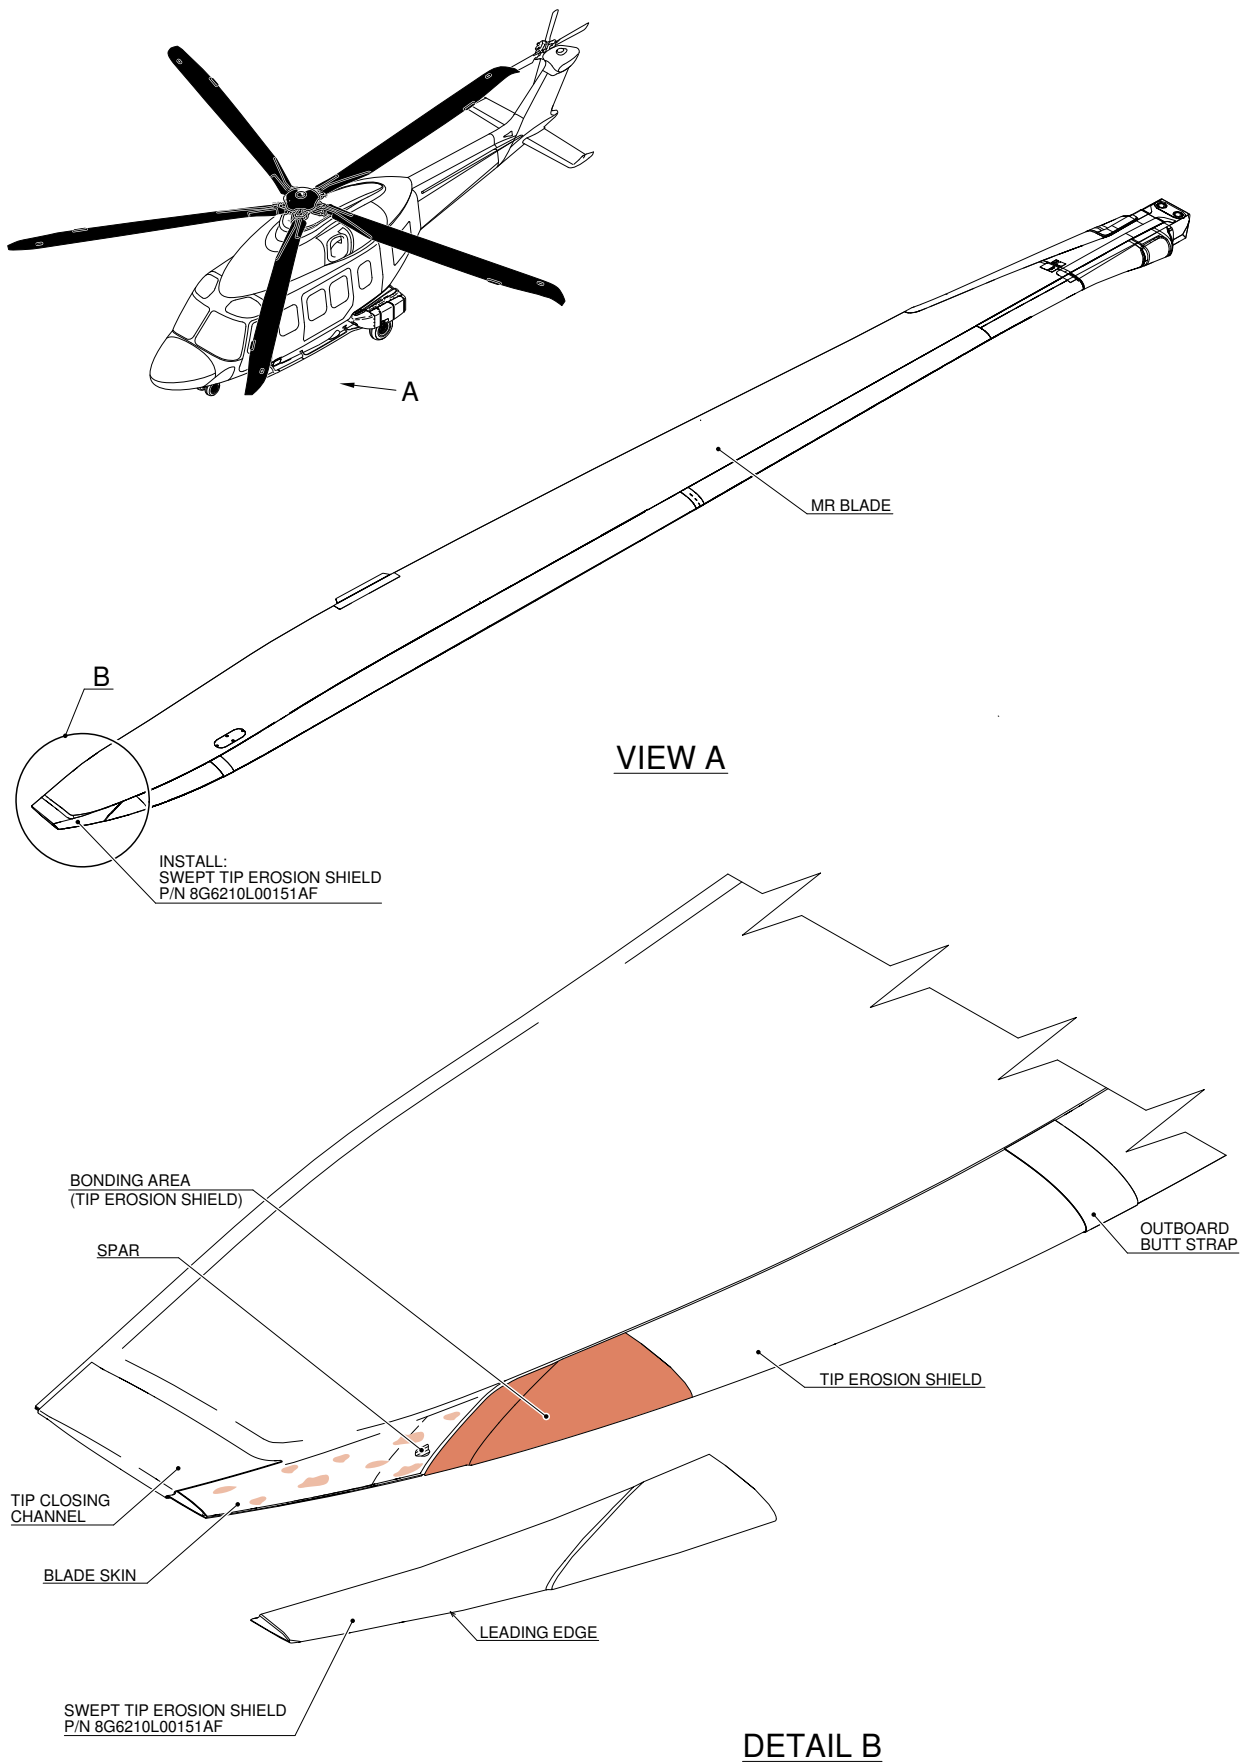

Figure 2
3. With reference to Figure 2, install swept tip erosion shield P/N 8G6210L00151AF on the MR blade as described in the following procedure: